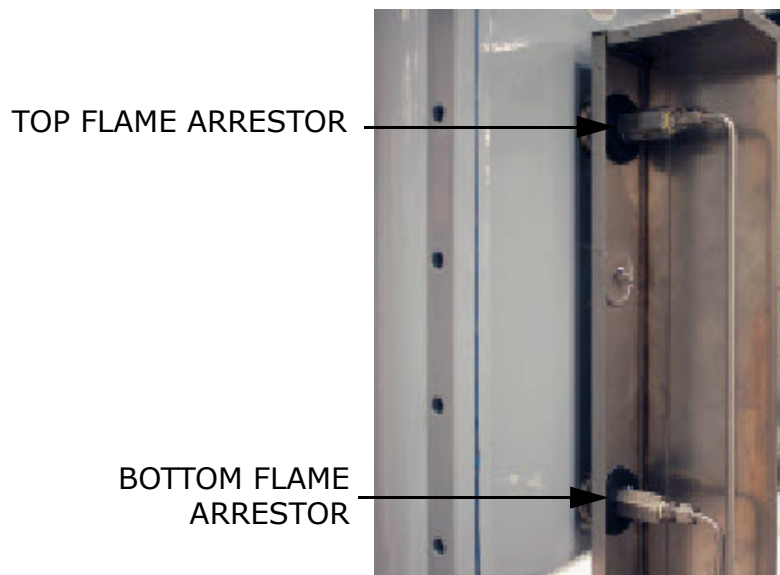

Figure B-20 Flame arrestor positions inside the enclosure
5. Disassemble the tubing using a 9/16 in. wrench. Refer to Figure B-20.